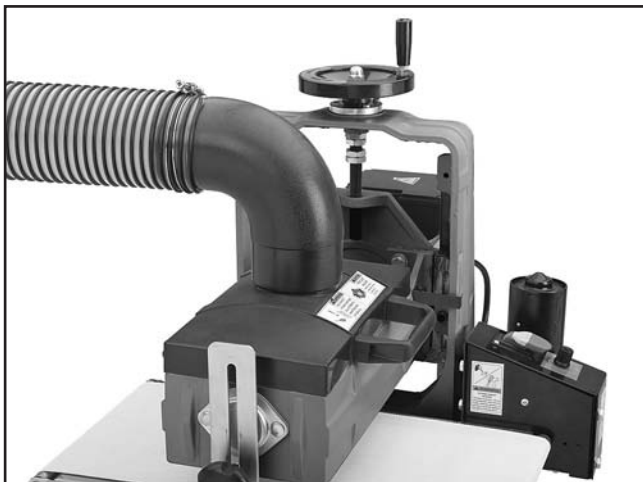

Figure 14. Dust hose attached to dust port.
1. Fit the 4" dust hose over the dust collection elbow, as shown in **Figure 14**, and secure in place with a hose clamp.